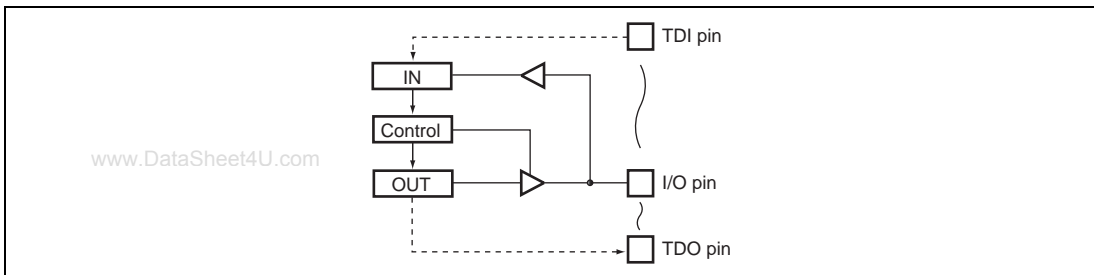

Figure 13.2 Boundary Scan Register Configuration
The I/O pins consists of three bits (IN, Control, OUT), input pins 1 bit (IN), and output pins 1 bit (OUT) of shift registers. The boundary scan test based on the JTAG standard can be performed by using instructions listed in table 13.2. Table 13.4 shows the correspondence between the LSI pins and boundary scan registers. (In table 13.4, Control indicates the high active pin. By specifying Control to high, the pin is driven by OUT.) Figure 13.2 shows the boundary scan register configuration example.